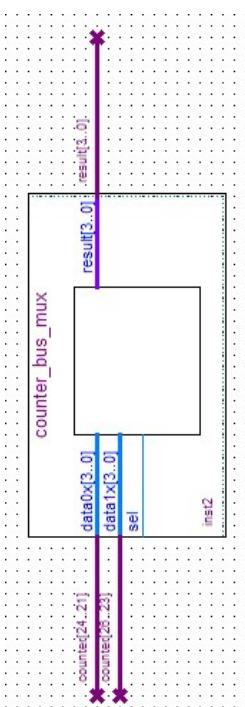

Figure 6-37 Renamed counter_bus_mux Bus Lines
- h. Click **OK**. Figure 6-37 shows the renamed buses.